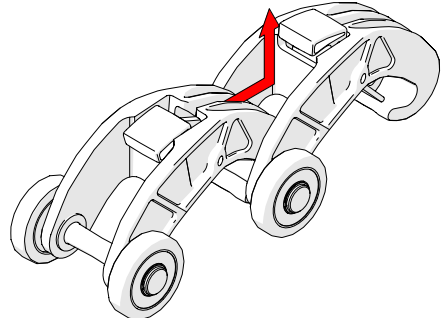

Fig. 71 - Slide QuickLink forward and lift
2. While pressing the button, slide the QuickLink forward and up, clearing the hook of the QuickLink from the 2nd QuickLink's axle (Fig. 71).